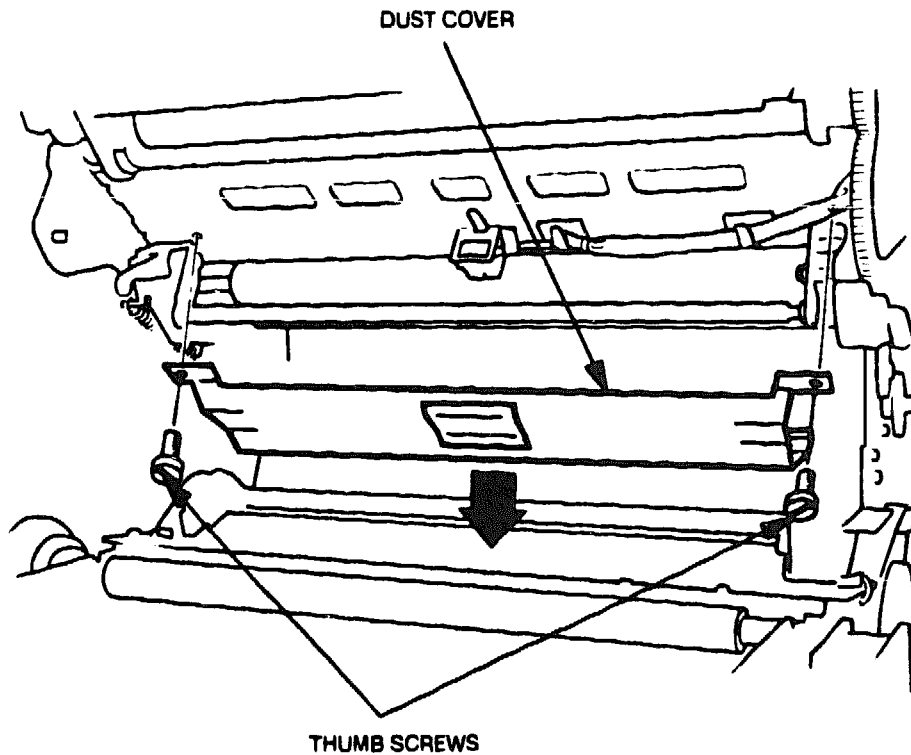

Figure 6-32 Dust Cover Removal
6. Slide the release lever forward (toward the control panel) on the top cover and open the upper unit. Remove the dust cover screws on the inside of the upper unit. Then remove the dust cover (see Figure 6-32).